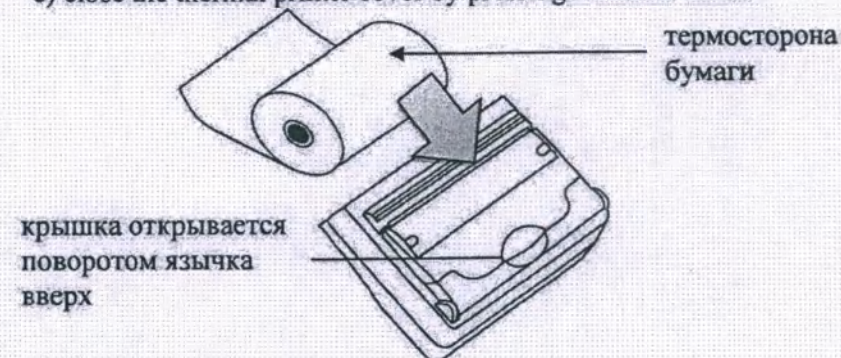

Figure 27 – Appearance of the paper compartment cover of a thermal printer
b) insert a new roll of thermal paper, positioning the roll as shown in Figure 27;